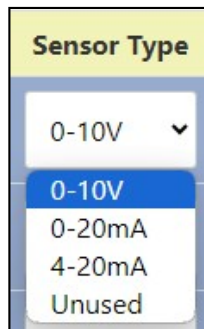

Figure 47: Dropdown Menu for Selecting Analog Sensor Type
- 1. Sensor Type:** Choose the sensor type from the dropdown menu, as illustrated in Fig 47. Selecting "Unused" will disable all parameters for that row.